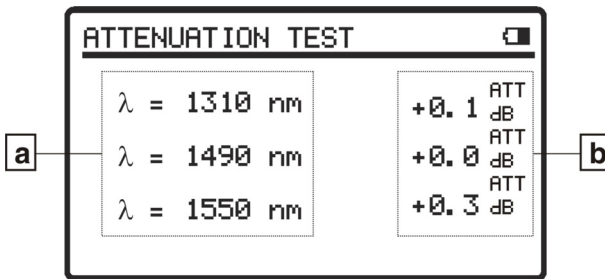

Figure 6.- **ATTENUATION TEST** Screen.
- 3.- Press **SEL**  [4] or **CONFIG**  [2] to get into this function (see figure 6).